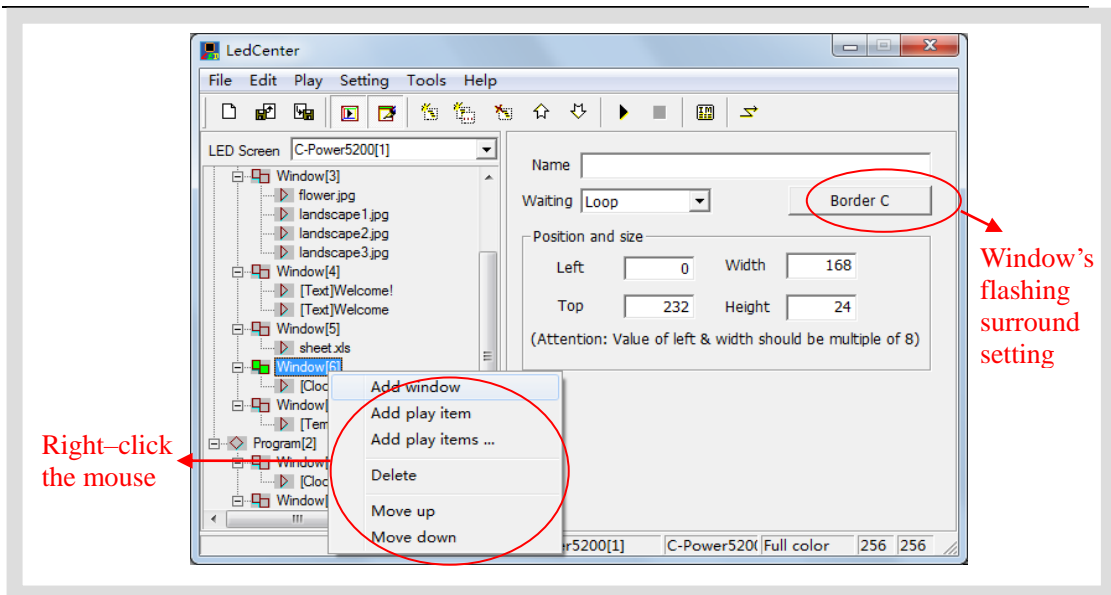
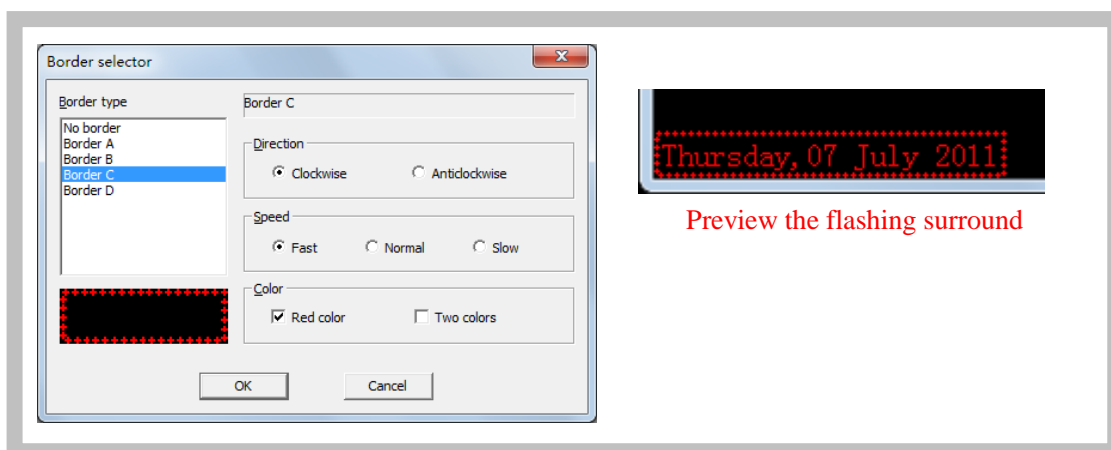

Figure15 Window management
Figure16 Flashing surround setting
Method 4 (recommended): right click a **program** or a **window** in playbill (at the left side of the console); select right shortcut in the pull down menu, as shown in Figure15.
When the **window** is selected, the attribute box at the left side will show its attribute, see Figure15. The following items can be set:
- B. Flashing surround: click the button of flashing surround setting (see Figure15), the "Border selector" pops up, as Figure16 shown. Add and select the surround's type. Every window can set the flashing surround to highlight the window's content.